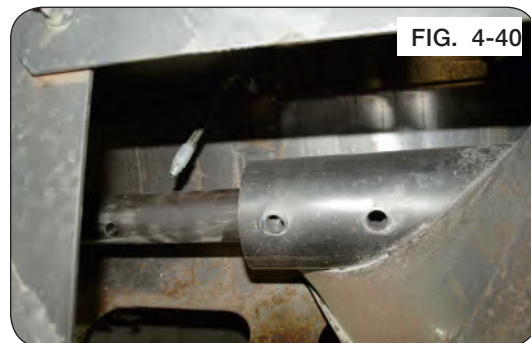

FIG. 4-40
17. Slide bushing insert into front auger and ensure tube holes are aligned. (Figs. 4-40 & 4-41)